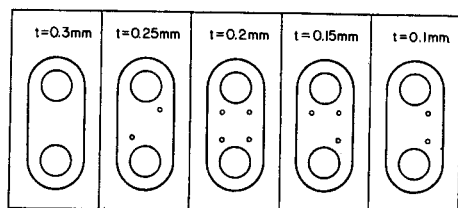

Fig. 6.4
- (1) Load the Track Viewer (DA09012A) and check the positions of playback and record heads. While adjustment, check to insure that the L-R center of each head coincides in position with the middle point between two lines (0.3mm distance) on the Track Viewer.
- (2) If the L-R center deviates from the middle point, correct the deviation using an appropriate PH and RH spacers to be provided for the playback and record heads. Fig. 10.29 P.B. Head Ass'y and Fig. 10.28 Rec. Head Ass'y show how to fix the spacers as shown in the Fig. 6.4 and 6.5. (C and D are the screw for the playback and record head azimuth alignments).